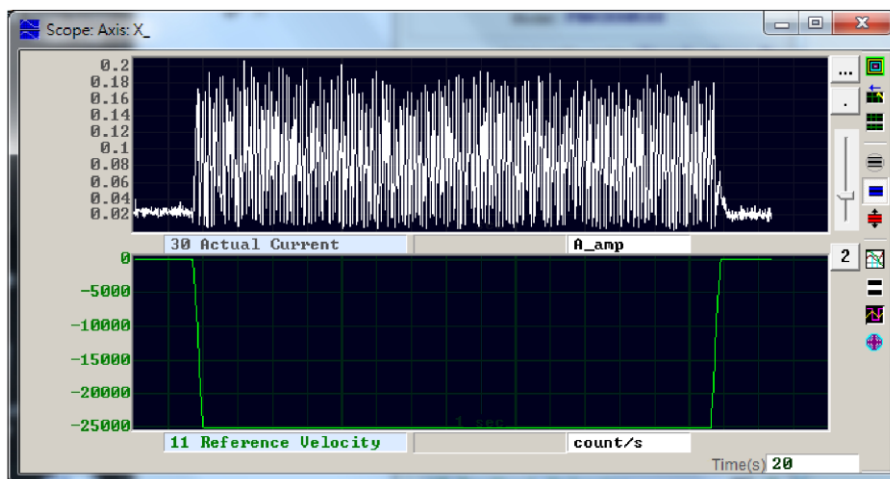

Fig. 8-6 Scope
Step 1. Turn on the scope (Fig. 8-6 scope) and observe the physical of the Actual Current diagram.